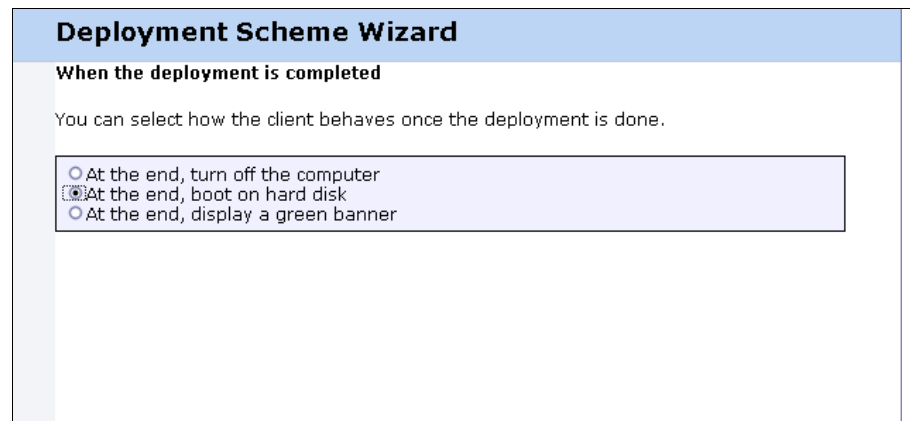

Figure 2-41 Selecting action after completed deployment
- Next, we select what to do after the deployment is completed. In our scenario we want the terminal to boot from the newly completed deployment; therefore, we select the second option as shown in Figure 2-41.